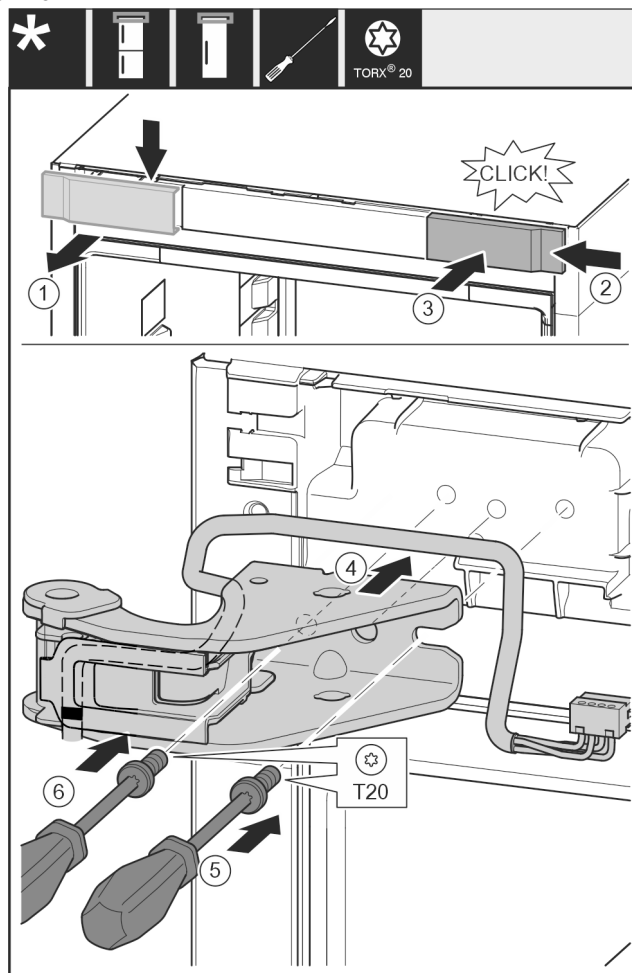

Fig. 33
- Remove the cover Fig. 33 (1) from the top towards the front.
- Hang the cover Fig. 33 (2) from the right turned by 180° to the other side.
- Snap in the cover Fig. 33 (3).
- Attach the top swap bearing block Fig. 33 (4).
- Attach and tighten the screw Fig. 33 (5) with a screw-driver.
- Attach and tighten the screw Fig. 33 (6) with a screw-driver.